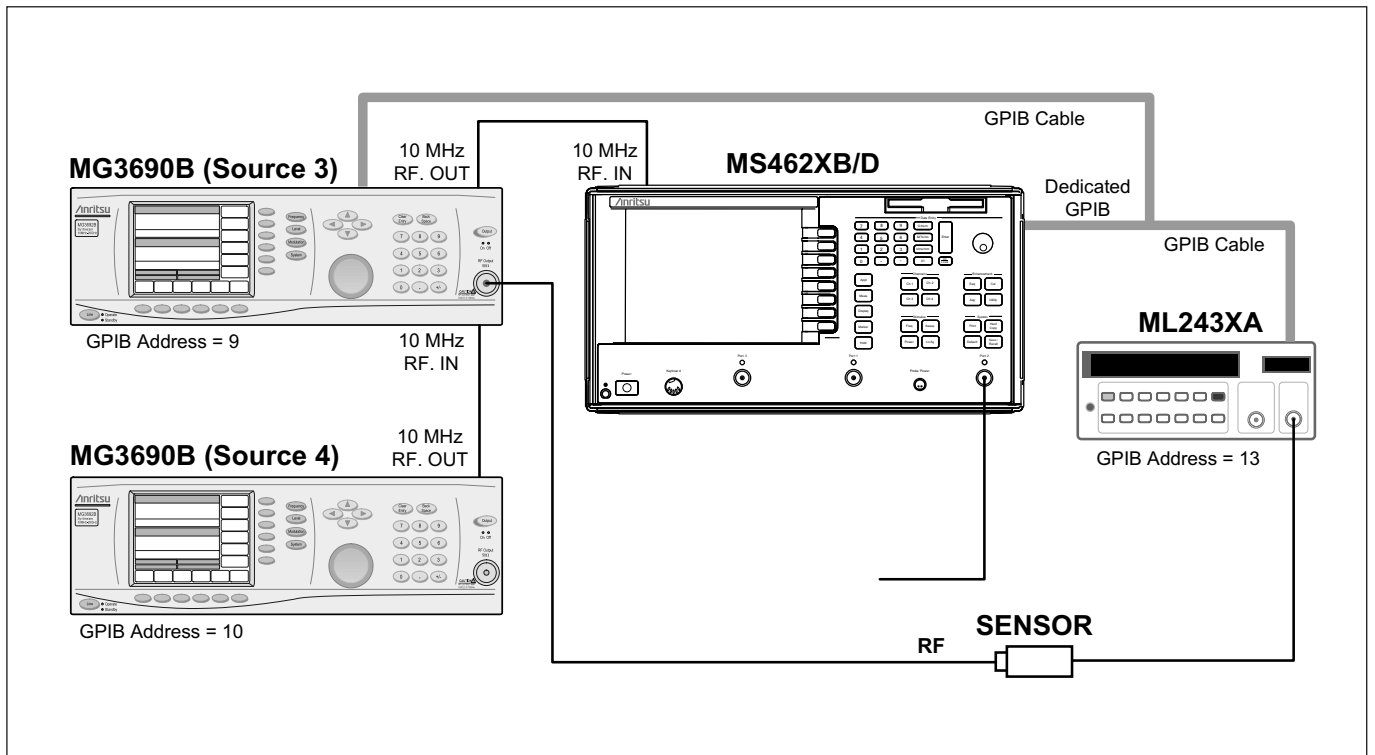

Figure 2. RF Source Leveling Connections
- Step 2. Connect the power sensor to the output of the MG3690B (Source 3) as shown in Figure 2. Make sure to use the cable that will be used during the measurement.